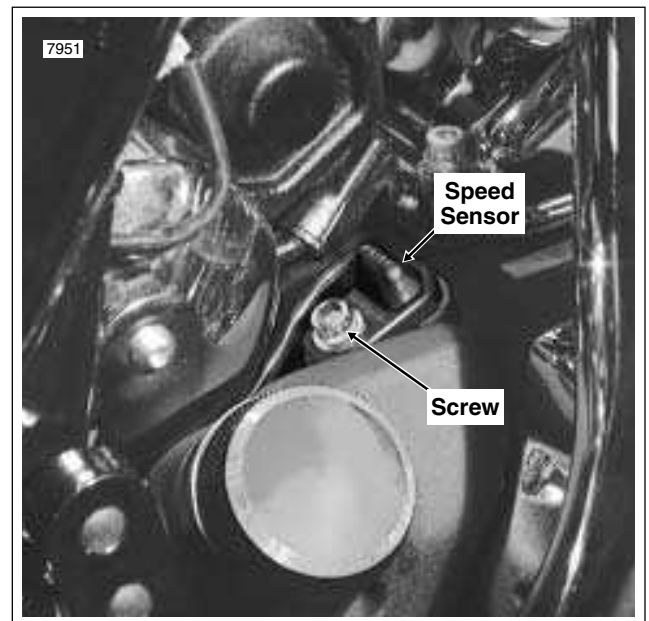

Figure 8-118. VSS Location
- 8. Locate VSS mounted next to the starter on the right side of the transmission case. Remove screw and pull sensor from transmission case. See Figure 8-118.